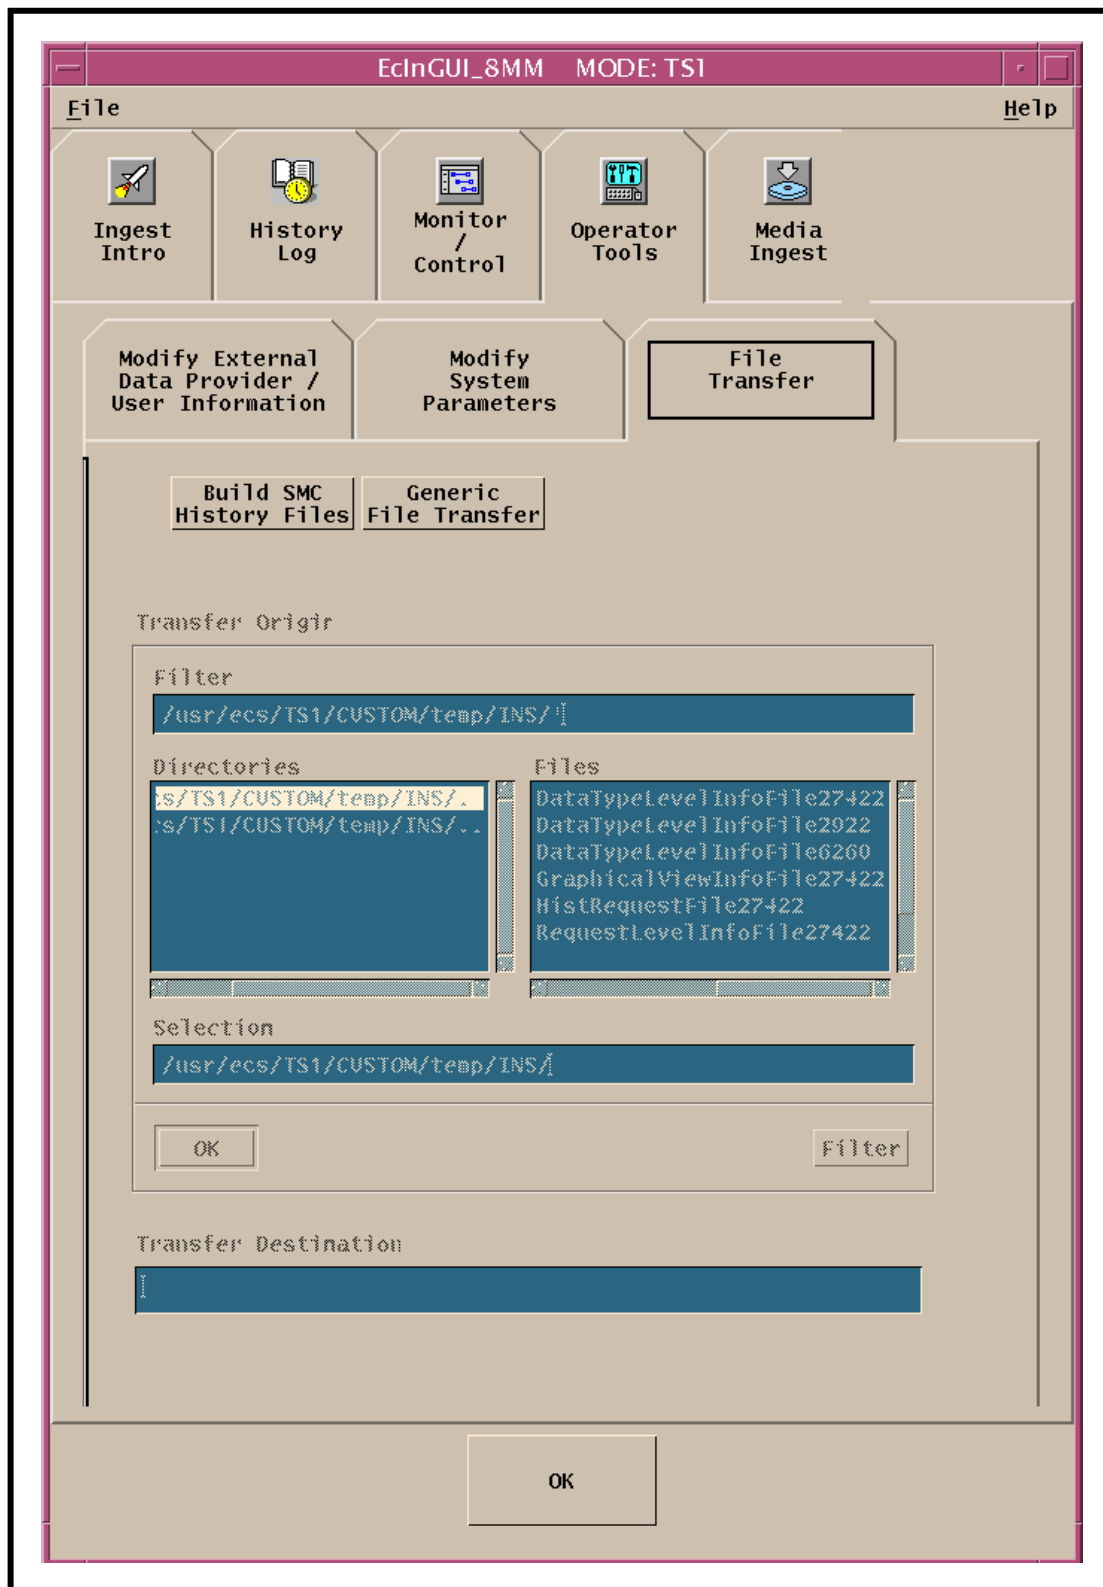

Figure 37. Ingest File Transfer Screen
- The **File Transfer** screen (Figure 37) is displayed.